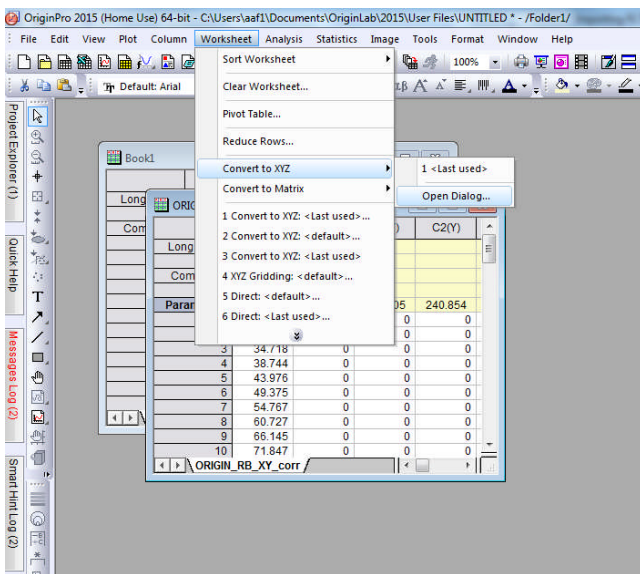

Figure 4: Creating a New Workbook
d) Click Worksheet >> Convert to XYZ >> Open Dialog... (Figure 4).